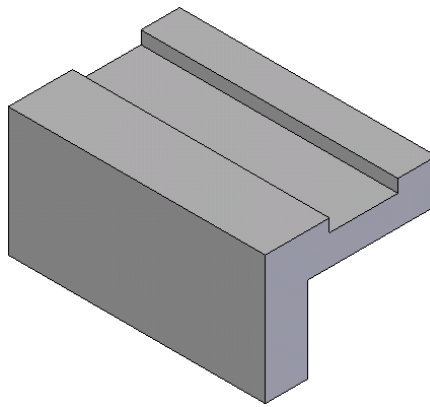

Figure 5-50 Base feature of the model
- Create the base feature on the right plane, refer to Figure 5-50.
6. Choose **Finish** from the ribbon bar. The base feature of the model is shown in Figure 5-50.